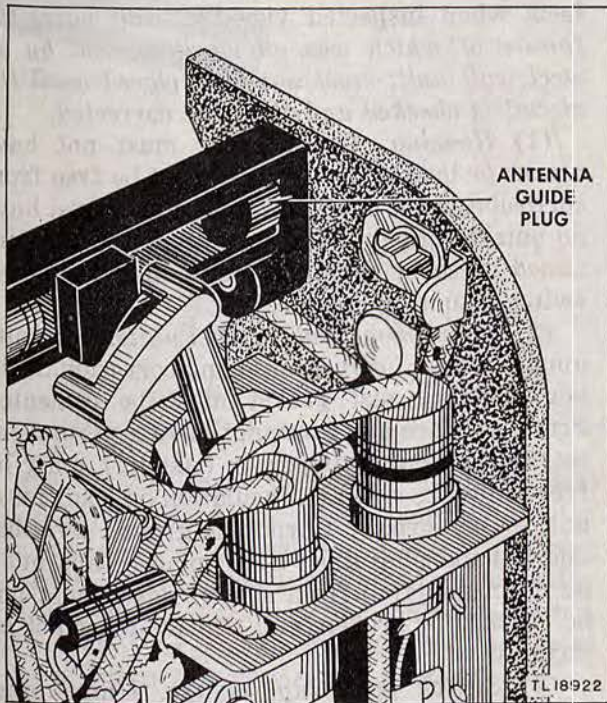

Figure 24. Use of antenna guide plug, Radio Receiver and Transmitter BC-611-(\*).
(2) *Antenna and power switch.* The antenna guide must not be cracked or broken. The antenna guide installed on a chassis using a switch with a short throw, must have a bakelite plug securely cemented in place as shown in figure 24. Do not use a plug with a long throw switch.